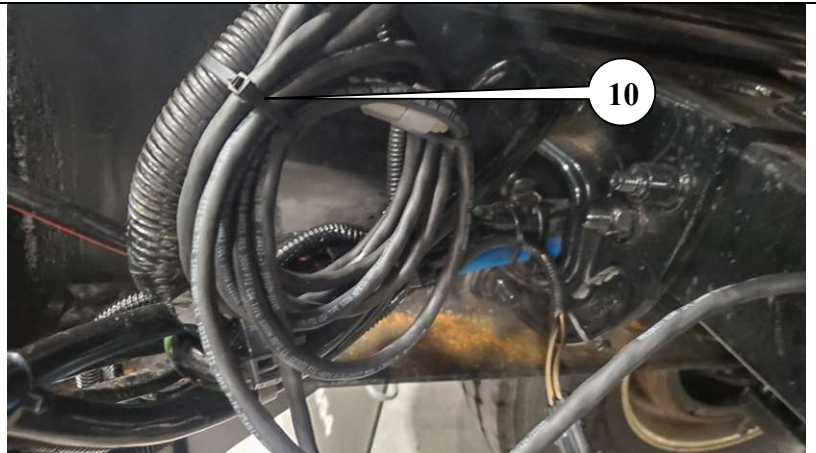

Figure 6
3. Connect main trunk connectors (6) and unit light connectors (7) unplugged in step 1. Reference Figure 6.
4. Connect main trunk connectors (6) to truck light connector (8) unplugged in step 1.
5. Connect harness branch connectors (9) to light connectors (6). Reference Figure 6 in procedure 4.
3. Coil any slack in wires and zip tie **(10)** (not provided) to hard points to protect harness. Reference Figure 6.